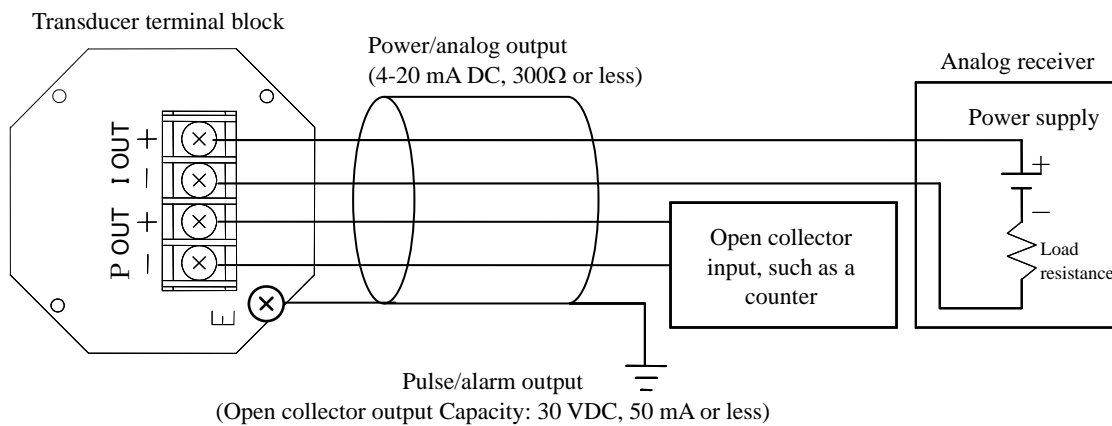

Figure 7-1 Wiring diagram
- (1) Connect the external cable of the flowmeter, power supply and external equipment as shown in Figures 7-1 and 7-2.